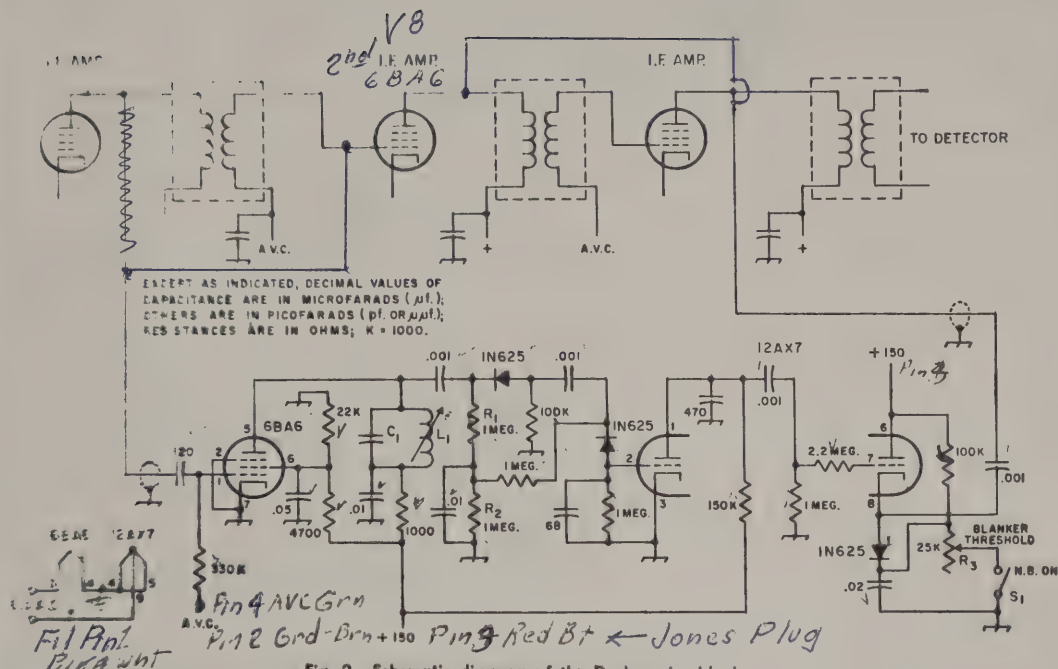

Fig. 2—Schematic diagram of the Drake noise blanker.
AFTER trying several noise-blanker circuits, I tried the one used by Drake in the R4 receiver—this one really works. The circuit shown in Fig. 2 was built into my home-constructed receiver.
Production units with serial numbers above 2715 incorporate these modifications. The following procedure is recommended for use on receivers with lower serial numbers which will substantially reduce the amount of hum present in the receiver. Refer to Figure 2.
11. After inserting shielded wire, CPN 439 7907 00 into sleeving, CPN 152 1312 00, connect this wire from center contact of R62 to pin 2 of V13. Route this wire as shown in Figure 2.